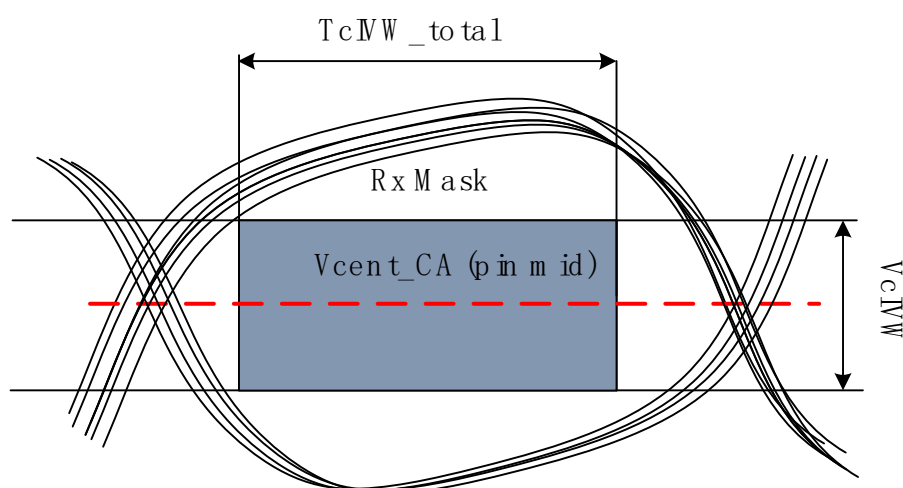

Figure 8-1 CA Receiver(Rx) Mask
The command and address(CA) including CS input receiver compliance mask for voltage and timing is shown in Figure 8-1. All CA, CS signals apply the same compliance mask and operate in single data rate mode.